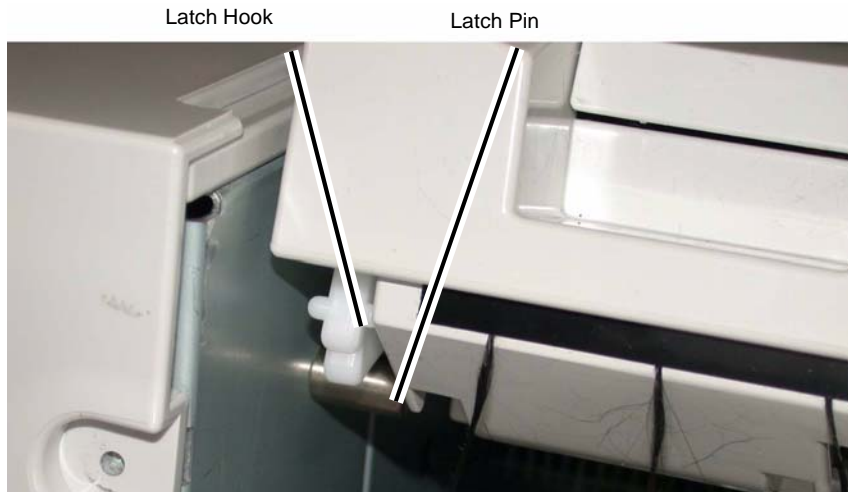

Figure 5 Positioning the Latch Hook and Latch Pin
4. Make sure the Latch Hook and Latch Pin are positioned as shown (Figure 5).